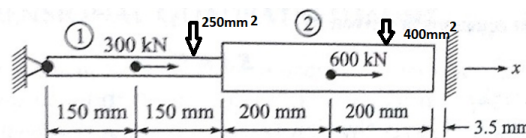

Figure 2
- (b) A two-step bar subjected to loading condition as shown in Figure 2 is fixed at one end and the free end is at a distance of 3.5mm from the support. Determine stresses in the element. Take $E=200 \times 10^9 \text{ N/mm}^2$. [7M]